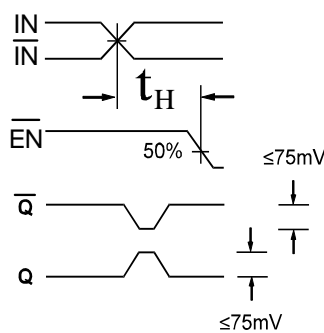

Figure 2. Hold Time
- The hold time is the minimum time that EN must remain asserted after a negative going IN or a positive going  $\bar{IN}$  to prevent an output response greater than  $\pm 75\text{mV}$  to that IN/ $\bar{IN}$  transition (see Figure 2).